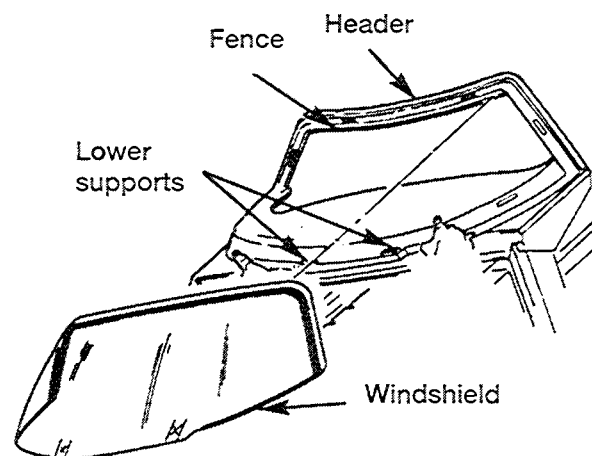

Fig. 6 Lower Windshield Into Position
10. Slowly lower windshield glass to windshield opening fence. Guide the tip molding into proper position if necessary. Push windshield inward to fence spacers at bottom and until top molding is flush to roof line (Fig. 6).